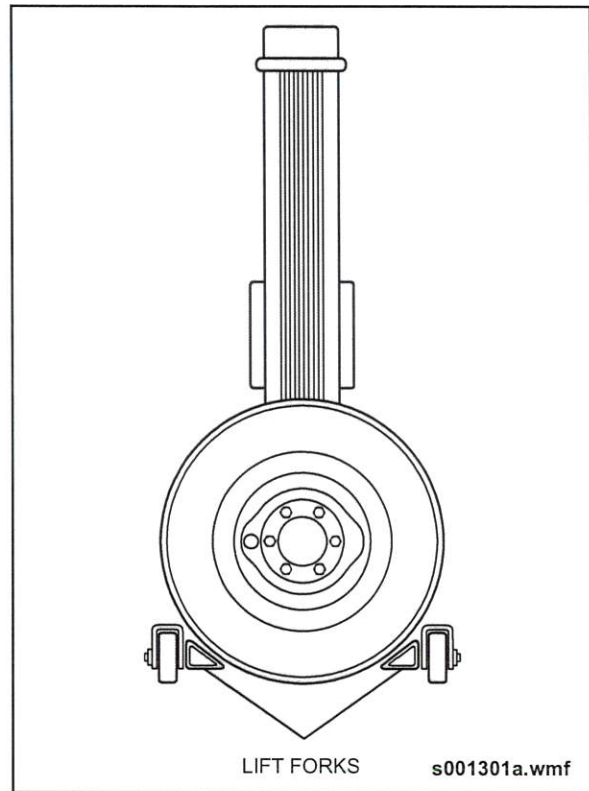
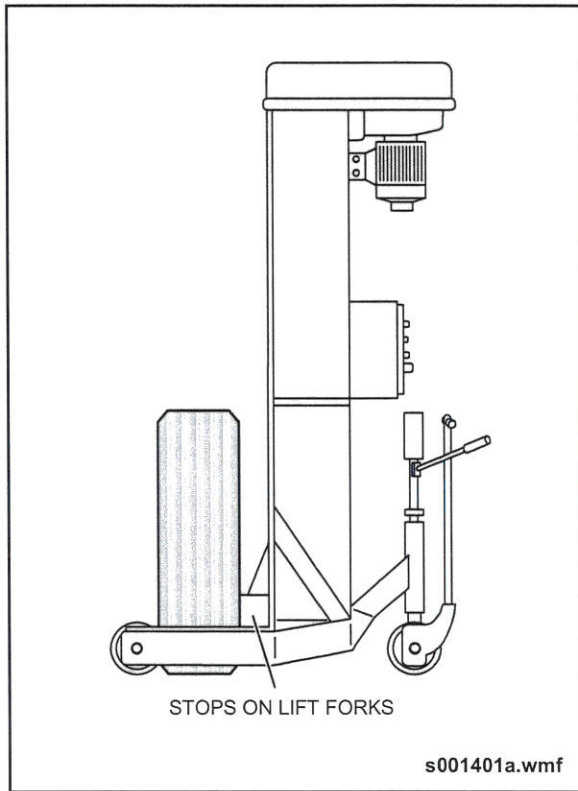

Fig. GI-17: Typical Wheel Lifts
Fig. GI-18: Wheel Placement in Hoist
1. Position wheel lift, centering each tire exactly between the lift forks. Make sure each tire is tightened up against the stop. See "Fig. GI-17: Typical Wheel Lifts" on page 35. See "Fig. GI-18: Wheel Placement in Hoist" on page 36.